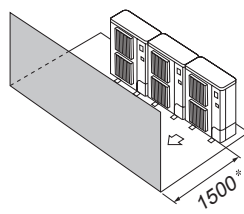

Fig. 4-14
- Obstacles at front only (Fig. 4-14)